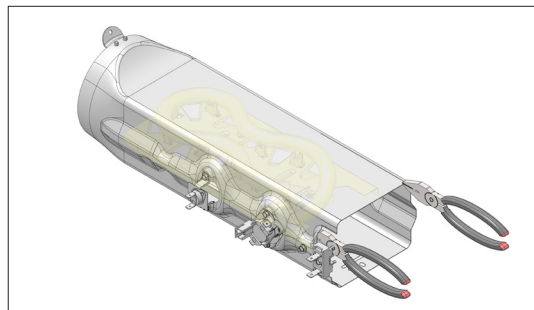
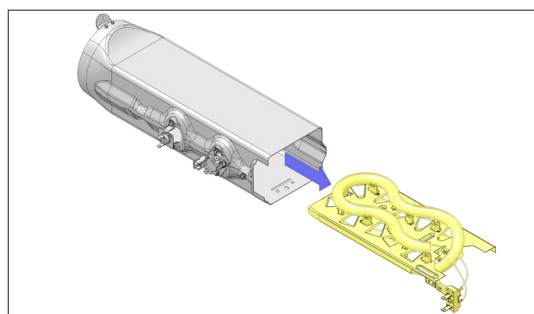

Figure 6
Figure 7
2. Remove two (2) 1/4" hex head screws one from the bottom and other from side of the housing.
4. Use one pair of pliers to hold the housing as shown in figure 6, and another pair of pliers to pull the heater coil up out of the housing as shown in figure 7.